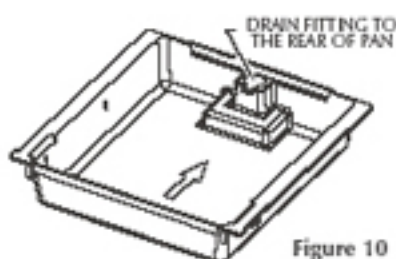

Figure 10
10. Install the water pan into the side panels. The water pan will install with the drain fitting to the rear of the humidifier. (Fig. 10)